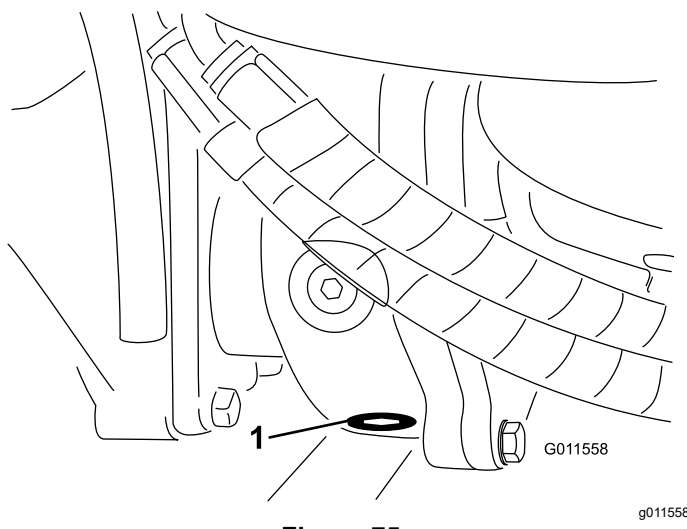

Figure 75
5. Clean the area around the drain plug at the bottom of the gear box (Figure 75).